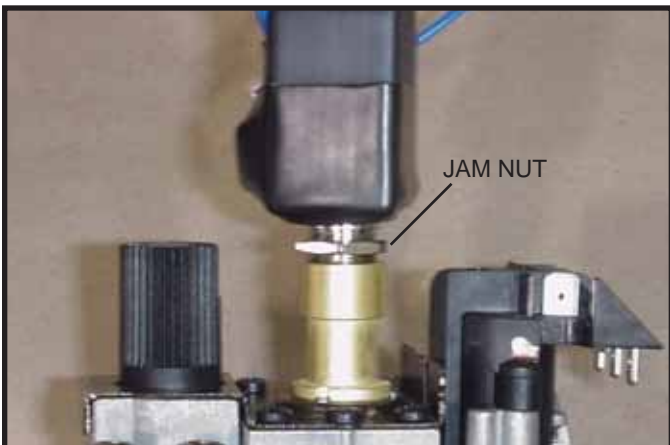

Figure 7.
3. Install Flame Control Solenoid by turning it into the regulator tower five complete rotations clockwise. See figure 7.
6. Tighten jam nut (Figure 4 and Figure 7) to the face of the regulator tower body.